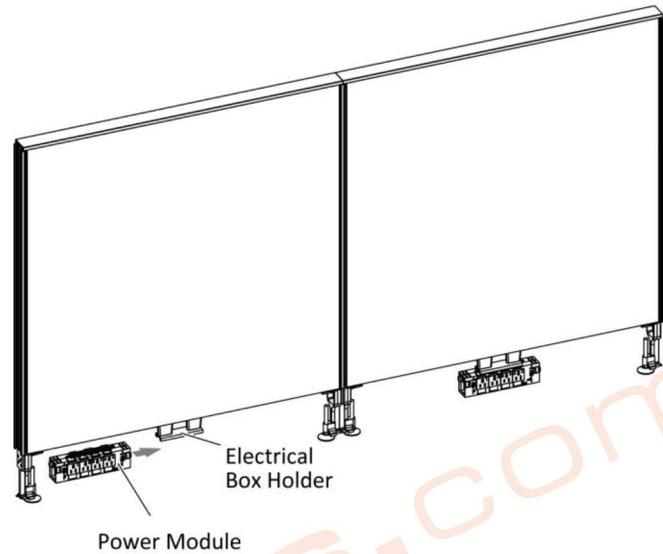

Figure 2
3. Slide the power module right or left into the electrical box holder, (Figure 2).